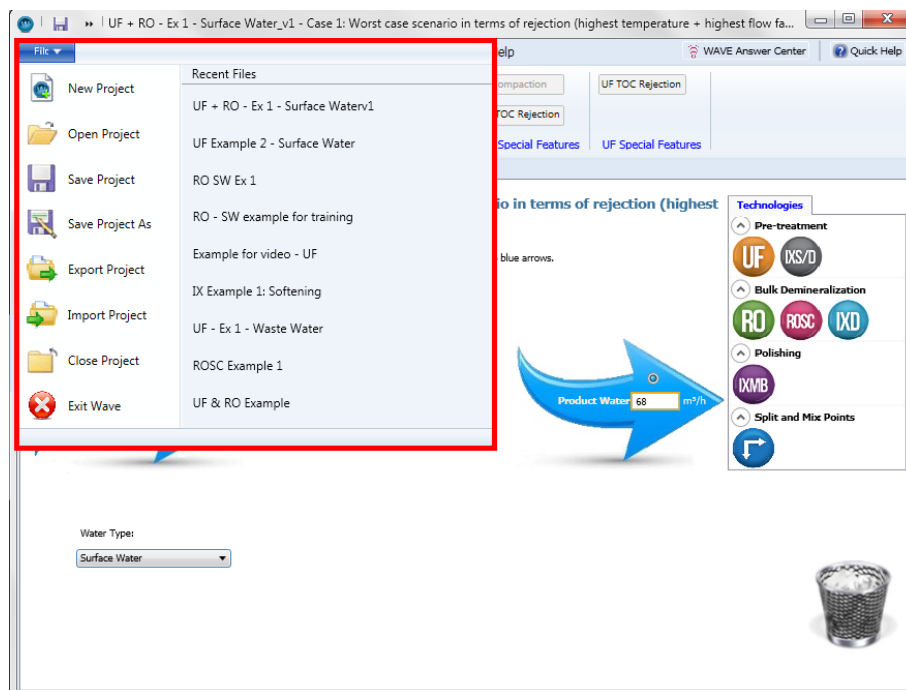

Figure 198. Choosing the ‘Open Project’
1. Click on “File”, then select “Open Project” (as shown in Figure 198)